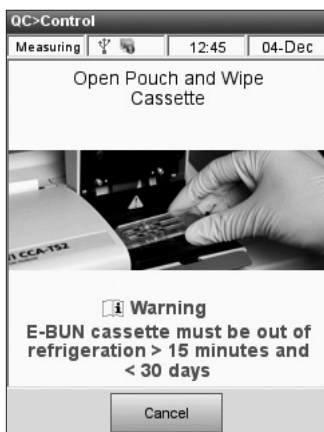

Fig. 4-23 E-BUN Open Pouch
- Tear open the cassette pouch and remove the cassette (Fig. 4-23). Wipe any excess moisture from the cassette with a clean dry cloth.
- Insert the cassette into the chamber. Press down to ensure that the cassette is seated properly (Fig. 4-23).